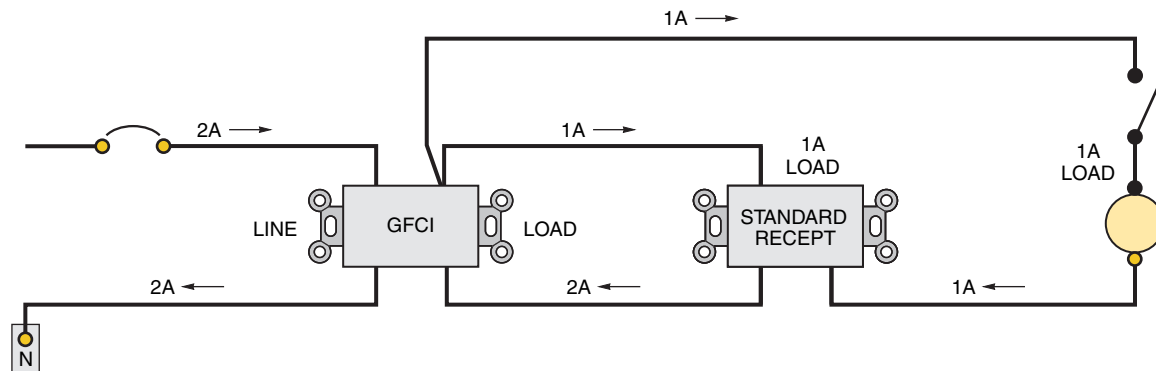

Figure 6-12 These diagrams show improper and proper connections of GFCI circuit breakers.
Figure 6-12(A) shows a 3-wire, multiwire circuit. This particular GFCI is not “listed” as suitable for sharing a neutral conductor in a multiwire branch. Trace the current flow and note that the GFCI will sense a current unbalance of 5 amperes and trip “OFF.” In fact, as long as the unbalance exists, it will never be able to be turned “ON.”
Figure 6-12(B) and Figure 6-12(C) show a 2-wire circuit. Figure 6-12(B) is an improper connection of a feedthrough GFCI receptacle. Note how the GFCI detects a current unbalance of 1 ampere and will trip “OFF.” As long as the unbalance exists, the GFCI receptacle will continue to trip “OFF” until the misconnection is corrected. Figure 6-12(C) illustrates the proper connection of a GFCI receptacle.
Never share the neutral conductor of a multiwire branch circuit when using GFCIs and AFCIs unless they are listed for sharing a neutral. See Figure 6-12. Two-pole AFCIs and GFCIs are available. Always follow the instructions furnished with these devices.